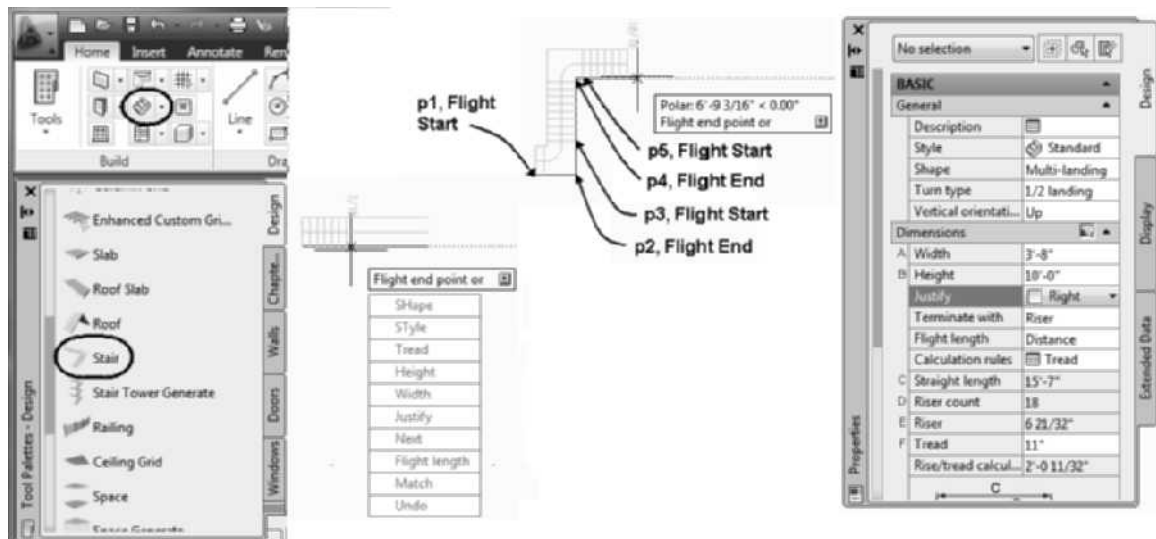
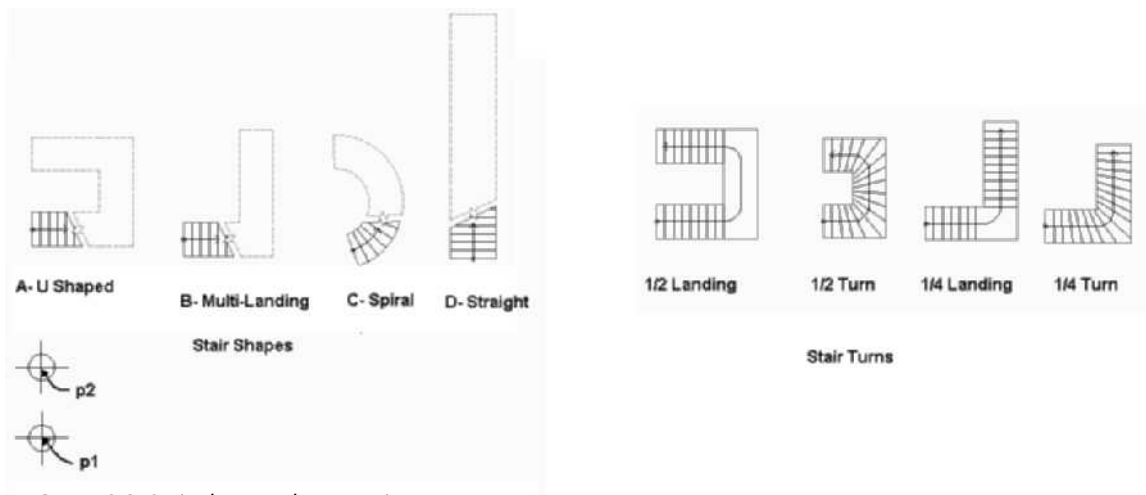
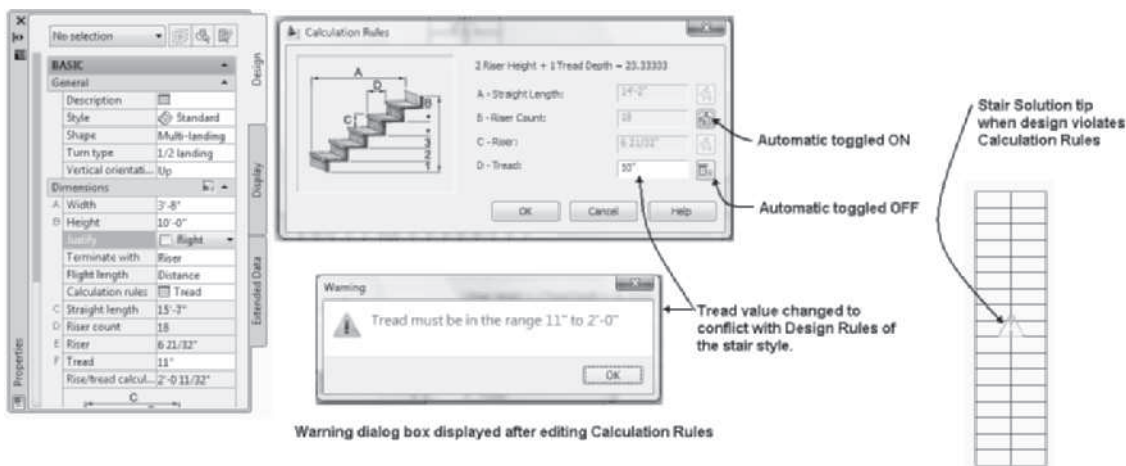
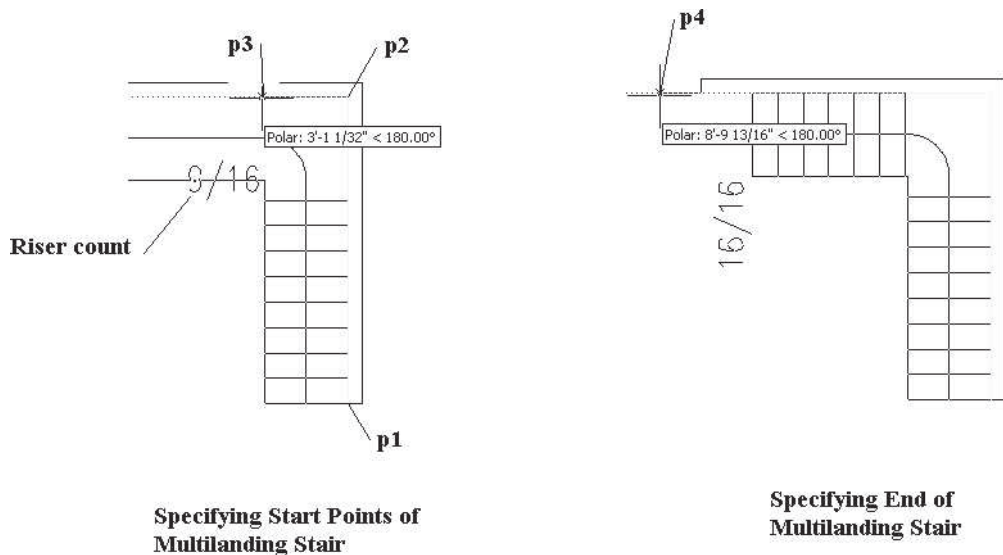

FIGURE 9.2 Accessing the Stair command and specifying the location of flight
FIGURE 9.3 Stair shape and turn options
FIGURE 9.5 Calculation Rules dialog box
FIGURE 9.11 Start and end flight points of a multi-landing stair
Stairs are placed in a drawing with the **Stair (StairAdd)** command selected from the Design palette or the Build panel of the Home tab as shown in Figure 9.2. Access the **Stair** command as shown in Table 9.1. The available shapes of stairs include U-Shaped, Multi-landing, Spiral, and Straight. The available space for the stair is a major consideration for the selection of the shape. The Properties palette for stairs shown in Figure 9.2 allows you to set the height and run of the stair based upon the **Calculation Rules**. The **Calculation Rules** button opens the **Calculation Rules** dialog box shown in Figure 9.5, which allows you to define the relationship of tread size, riser size, straight length, and riser count. Stair styles that include Cantilever, Concrete, Half Wall Rail, Ramp Concrete, Ramp Concrete Curb, Ramp Steel, Standard, Steel, Wood-Housed, and Wood Saddle can be imported into the drawing. Each of these styles changes the appearance of the stair and the means of support for the stair. Prior to placing the stair, you should first review the content in the Design tab of the Properties palette for stairs.
Selecting the **Stair** command opens the Properties palette, and you are prompted in the workspace to specify the start point of the flight. The start flight and end flight points of a multi-landing stair are shown in Figure 9.2. The workspace sequence for the stair created in Figure 9.2 is shown below. The polar tracking tip indicates the distance between flight start and flight end. The number of risers is dynamically displayed in fraction format as you move the mouse to the flight end. The numerator of the fraction is the riser count currently displayed, and the denominator is the total risers required.
Flight start point or: (Select flight start for the multi-landing stair at p1 as shown in Figure 9.2.)
Flight endpoint or: (Select flight end at p2 as shown in Figure 9.2.)
Flight start point or: (Select flight start point at p3 as shown in Figure 9.2.)
Flight endpoint or: (Select flight start point at p4 as shown in Figure 9.2.)
Flight start point or: (Select flight start at p5 as shown in Figure 9.2.)
Flight endpoint or: (Dynamic display of current cursor location as shown in Figure 9.2.)
The options of the StairAdd command are set in the Properties palette shown at the right in Figure 9.2. The following options can be selected from the workspace: Shape, Style, Tread, Height, Width, Justify, Next, Flight Length, Match, and Undo. Additional options can be selected from the Properties palette as described below. When you choose a Shape option the content in the Design tab of the Properties palette changes according to the needs of the shape. The shape and turn options are shown in Figure 9.3. The **Calculation Rules** button opens the **Calculation Rules** dialog
box shown in Figure 9.5. This dialog box allows you to select among the following control options: A-Straight Length, B-Riser Count, C-Riser, and D-Tread. If Automatic is toggled ON for all fields, the stair dimensions are calculated based upon the **Design Rules** tab of the Stair Styles dialog box. Selecting a control option such as **Riser Count** will calculate the stair dimensions based upon the **Design Rules** tab of the **Stair Styles** dialog box, and the results will be displayed in the **Calculation Rules** dialog box. The tread dimension can be overridden in the Calculation Rules dialog box as shown in Figure 9.5. The name of the control option selected is then displayed in the Calculation Rules field. If you insert values in the Calculation Rules dialog box that violate the parameters specified in the Design Rules tab for the stair style, a warning dialog box is displayed and the solution tip is displayed on the stair, as shown at the right in Figure 9.5.
6. Select the stair A as shown in Figure 9.3. Verify the Shape is U-Shaped in the General section of the Design tab in the Properties palette. Select the remaining stairs and verify the shapes as defined in Figure 9.3.
7. Choose the Stair tool from the Design palette. Choose the U-Shaped from the Shape flyout list in the Properties palette. Turn types may be specified for U-Shaped and Multi-landing stairs. The 1/2 landing turn type was specified for the stair A as shown in Figure 9.3.
Flight start point or: *(Choose a point at p1 to start the stair as shown in Figure 9.3)*
11. The Dimensions section of the Design tab may be edited during or after placement of a stair. Select the Straight stair at D as shown in Figure 9.3. The **A-Width** field of the stair is 3'-8" [1000]. Edit the width to **4'-0" [1200]**. Retain the selection of the stair.
15. Choose the button in the Calculation rules field of the Design tab to open the Calculation Rules dialog box as shown in Figure 9.5. This dialog box includes the following four fields to control the design of the stair: A-Straight Length, B-Riser Count, C-Riser, and D-Tread. The fields of this dialog box may be set to Automatic (lighting bolt icon) or Manual (plus sign). Values entered must comply with the rules of the Design Rules tab of the style. Violations to the Design Rules will display the Stair Solutions tip as shown at right in Figure 9.5.
16. Edit the D-Tread value to 10" [225] and press Enter. Since this value violates the Design Rules the Warning dialog box is displayed as shown in Figure 9.5.
20. Select the D straight stair as shown in Figure 9.3. Choose **Isolate Objects** from the General panel. Choose **East** from the View Cube.
The multi-landing stair can include one or more landings and stair flights. The second stair flight can be straight or at an angle to the first flight. If the multi-landing stair turns at an angle, you can specify the type of turn in the **Turn type** field in the Design tab of the Properties palette. The turn types are shown in Figure 9.3. The **1/2 Landing** turn type and Right justify was selected to place the stair shown in Figure 9.11 for the workspace prompts shown below. The **1/2 Landing** is created by starting the second flight at the end of the landing. The display of the riser count is dynamically displayed as you place the endpoint of the flight.
Flight start point or: (Using Endpoint object snap, select point **p1** as shown at the left in Figure 9.11.)
Flight endpoint or: (Using Endpoint object snap, select point **p2** as shown at the left in Figure 9.11.)
Flight start point or: (Move the cursor to the left until polar track tip distance equals at least 3', and then left-click to specify point **p3** as shown at the left in Figure 9.11.)
Flight endpoint or: (Move the cursor to the left, and select a point beyond the dynamic display of the stair near **p4** as shown at the right in Figure 9.11.)
Stretching the grips of the stair allows you to quickly adjust the start and end points of the stair flight. If a multi-landing stair is edited by grips, it is shortened or lengthened a distance equal to the tread size. The **Flight Taper** and **Flight Width** grip allows you to stretch the edge of the stair. The **Location** grip moves the stair without stretching its components. The **Lengthen Stair** grip stretches the straight length of a Straight stair if **Straight Length** is **not** set to **Automatic** in the Calculation Rules. **Automatic** can be toggled OFF in Calculation Rules for an existing stair. **Flight Start** and **Flight End** grips adjust the location of the insertion point of the start and end of the flight. The **Construction Line** and **Graphic Path** grips edit the location of the path arrows. Movement of grip points to locations that violate the Design Rules will cause the display of the stair warning symbol shown in Figure 9.5.